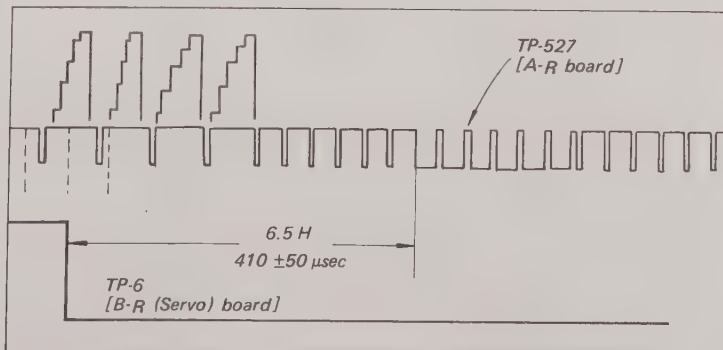

Fig. 7-11. Video head switching position
5. Adjust R31 so that the negative-going (trailing) edge of the delayed 30 PG (A) pulse is 6.5 H (412.8 μ sec) ahead of vertical sync. See Fig. 7-11.
7. Set R14 so that the negative-going (trailing) edge of the 30 PG (B) pulse is 6.5 H ahead of vertical sync. See Fig. 7-11.